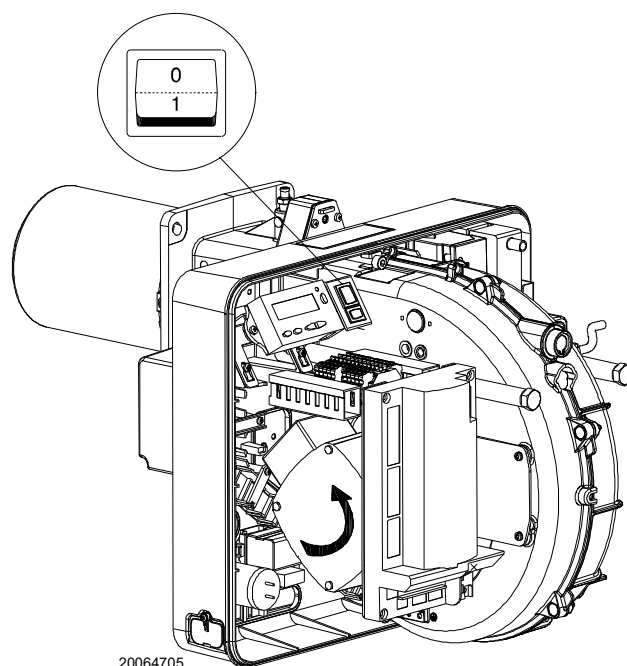

Fig. 29
Close the thermostats/pressure switches and turn the switch of Fig. 29 to position “1”.
As soon as the burner starts up, go in front of the cooling fan of the fan motor and check it is rotating anticlockwise. See Fig. 29.
- place the switch of Fig. 29 in position "0" and wait for the flame control to carry out the switch-off phase;
The burner is in the heat request waiting mode, or the selector “0-1” (Fig. 29 at page 31) is in the “0” position.
With the selector “0-1” (Fig. 29 at page 31) the burner does not stop immediately, but the switch-off phase is activated.